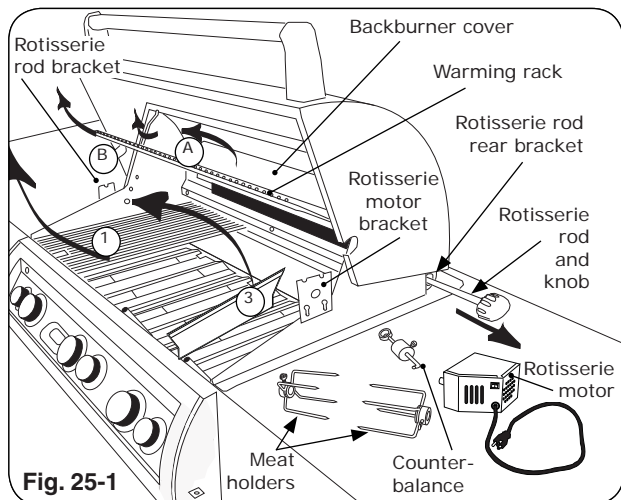

Fig. 25-1
2. Slide rotisserie motor fully onto motor bracket (right side, Fig. 25-1 and 25-2).
3. Remove rotisserie rod from rear bracket (Fig. 25-1) and attach knob if necessary.